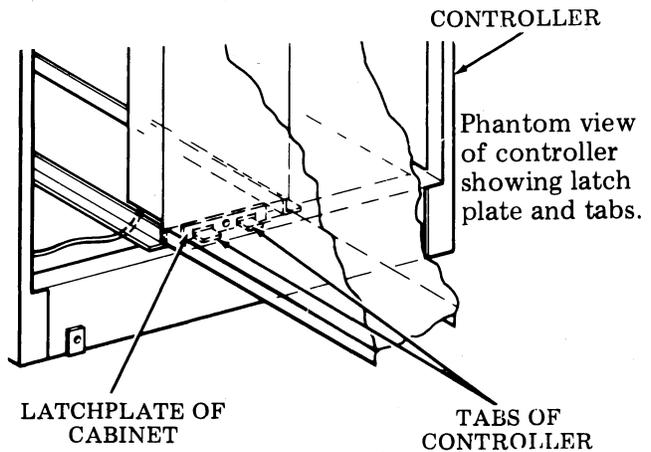

Fig. 40
- ① To aid access to cables, slide controller out while supporting front of controller, then lower front of controller to the floor in front of cabinet. Rear of controller is held in cabinet by a latch plate under the controller. See Fig. 40.